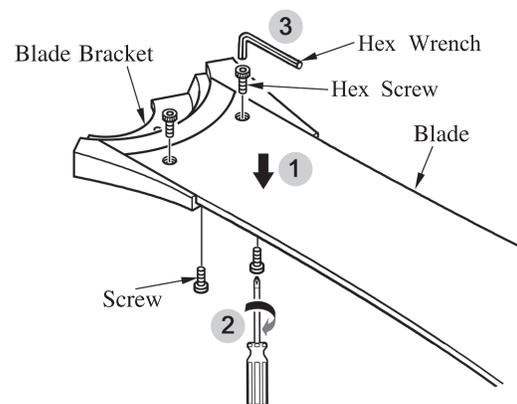

FIG.10
1. Assemble the blade with blade bracket as per Fig.10
- ① Place the blade on the blade bracket and align the hole in bracket with hole in blade.
- ② Use the blade attachment screw from the blade bracket side to assemble the blade and blade bracket together as ② in the drawing. Make sure secure them tightly.
- ③ Use the hex wrench to install the hex screw from the blade side as ③ in the drawing.